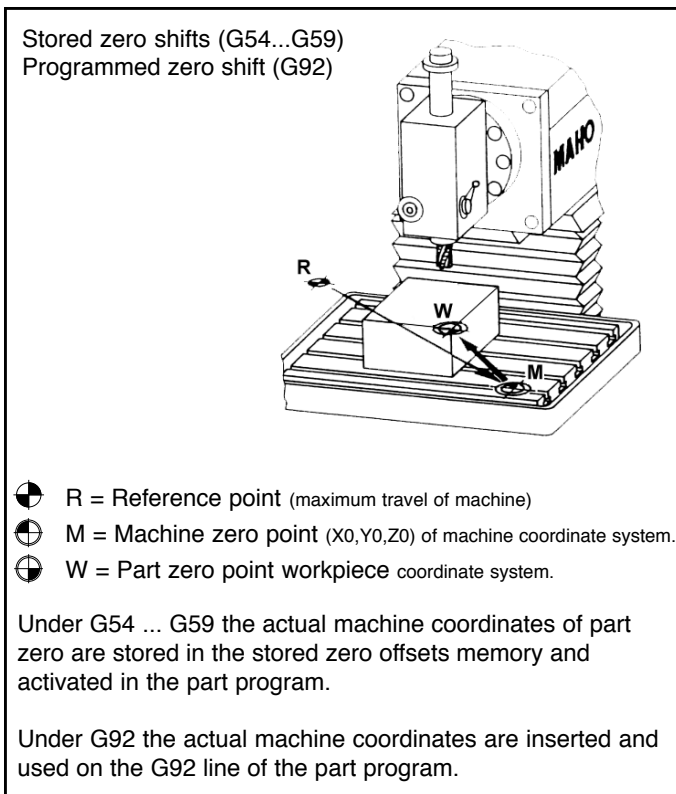

Fig. 19 The relationship between the part zero and the machine system of coordinates. (Deckel Maho, Inc.)
**ABSOLUTE ZERO SHIFT** - The absolute zero shift can change the position of the coordinate system by a command in the CNC program. The programmer first sends the machine spindle to home zero position by a G28 command in the program. Then another command (G92 for absolute zero shift) tells the MCU how far from the home zero location, the coordinate system origin is to be positioned, Fig. 19.